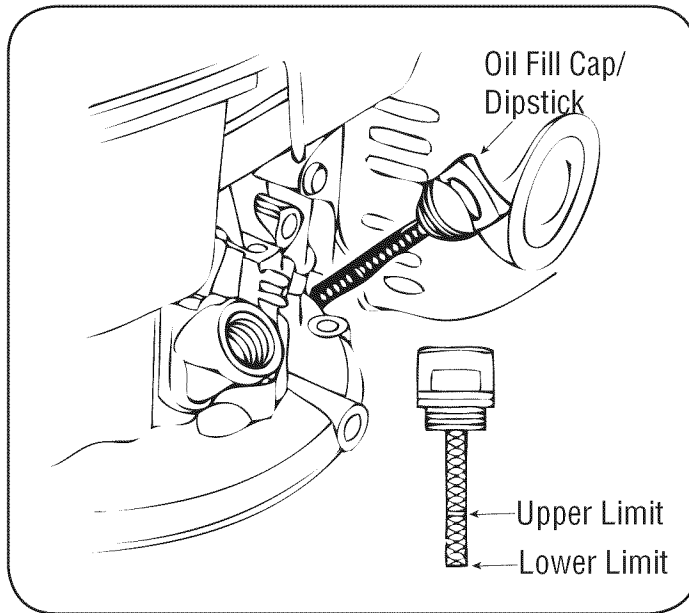

Figure 10
2. With the mower on level ground, fill the engine to the upper limit mark on the dipstick with the recommended oil. See Figure 10.
3. Insert the oil filler cap/dipstick as far as it will go into the oil filler neck, but do not screw it in, then remove it to check the oil level. See Figure 10.